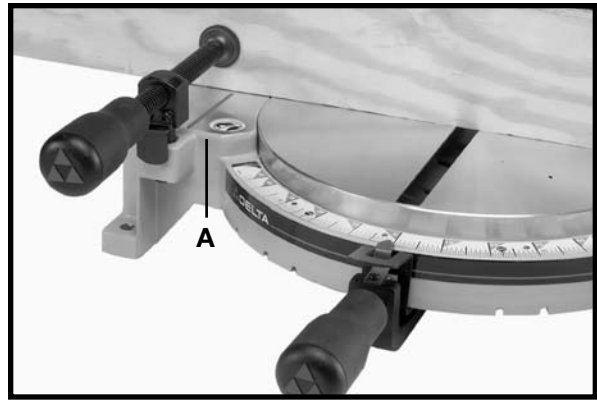

Fig. 35
2. Firmly clamp the workpiece to the table against the fence. Fig. 35 illustrates the work clamp (A) used to clamp the workpiece to the fence. The clamp (A) can also be used on the right side of the machine.
4. **WARNING:** If the workpiece causes your hand to be within the hazard zone of the saw blade, clamp the workpiece in place before making the cut (Fig. 35.)